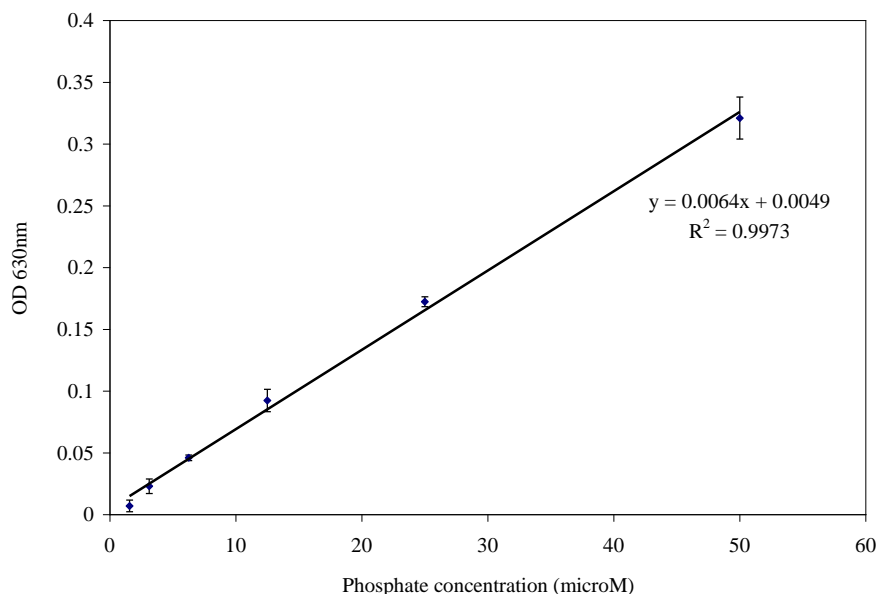

Figure 1. A typical phosphate standard curve measured by ScienCell™ Malachite Green Phosphate Assay.
Data from ScienCell™ Malachite Green Phosphate Assay of phosphate solutions with concentrations ranging from 1.5625 to 37.5 μM show a linear relationship between $\text{OD}_{630\text{nm}}$ and phosphate concentration (Figure 1).
2. Based on the calibrated $\text{OD}_{630\text{nm}}$ of the phosphate standard, make a standard curve by plotting $\text{OD}_{630\text{nm}}$ as a function of phosphate concentration. (See Figure 1 for a typical standard curve.) Determine the equation and R^2 value of the trend line.